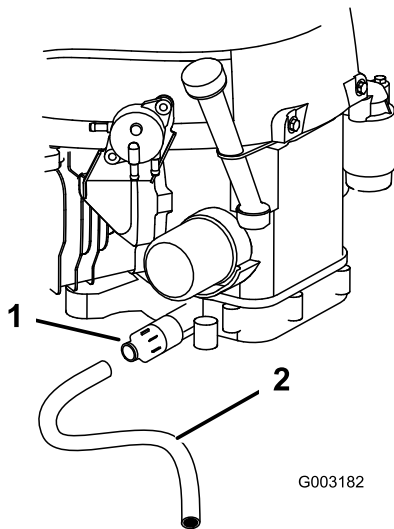

Figure 27
5. Slide the drain hose over the drain valve (Figure 27). Place a pan below the drain hose.
6. Rotate oil drain valve to allow oil to drain (Figure 27).
8. Remove the drain hose (Figure 27).